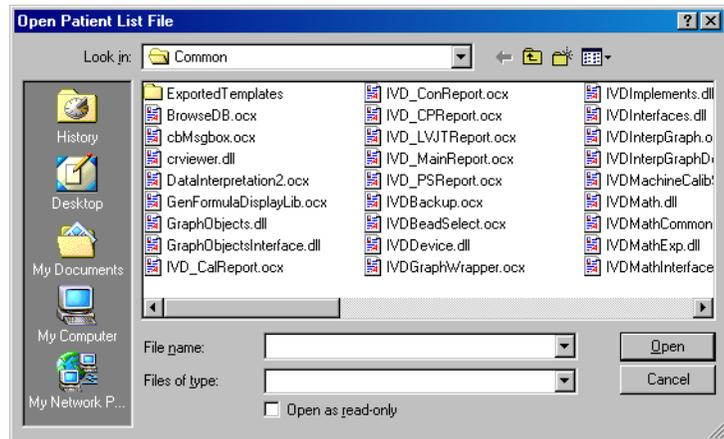

Figure 28 Open Patient List File Dialog Box
10. To add a patient file to the batch, click **Load Patient List**. An **Open Patient List File** dialog box opens. See Figure 28. If you do not want to add a patient list to the batch, skip to step 11.